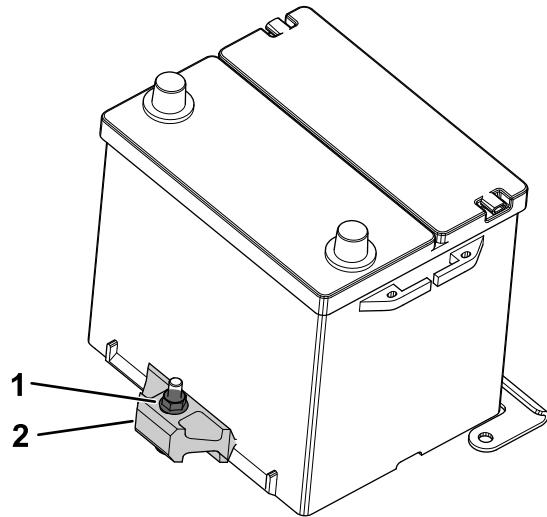

Figure 70
2. Loosen the locknut securing the battery retainer and remove the battery from the tray (Figure 70).
1. Place the battery on the battery tray and secure the battery to the retainer by tightening the locknut (Figure 70).